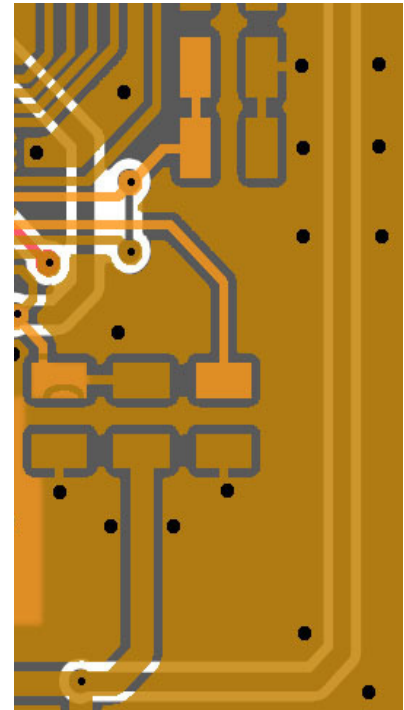

Figure 6
- Connect both ground planes with vias (black spots in the figure 6) on several locations on the PCB.